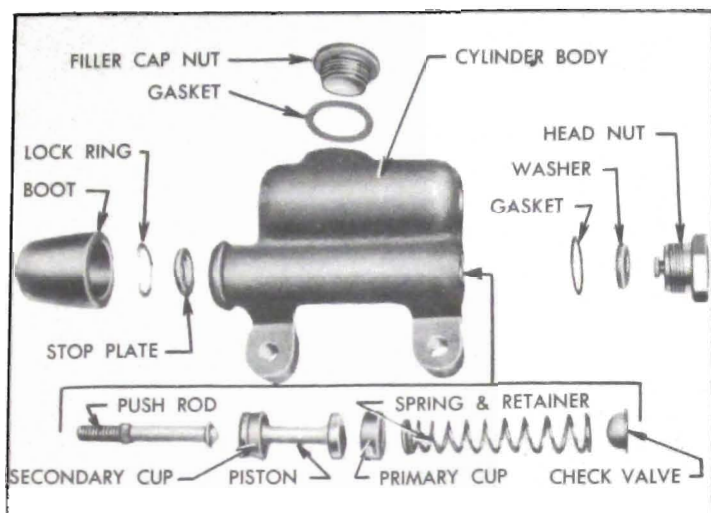

Figure 8-14—Master Cylinder—Disassembled
3. Remove filler cap nut and drain all fluid from master cylinder. Remove head nut, check valve, and spring. Turn the boot back, remove lock ring, then remove push rod, stop plate, piston, and primary cup. See figure 8-14.
8. Install stop plate, lock ring, push rod and boot. Dip internal parts in brake fluid, then install piston with secondary cup, primary cup, spring with retainer against primary cup, check valve, and head nut with rubber washer and gasket. Tighten head nut securely. Install filler cap nut and gasket to keep dirt out of reservoir. See figure 8-14.